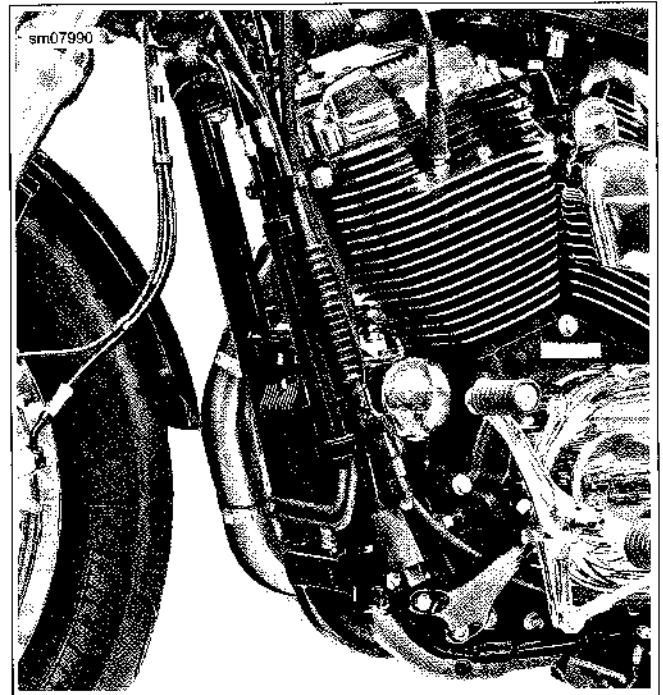

Figure 6-100. Left Down Tube Wire Routing
20. See Figure 6-100. Connect lower front connectors: